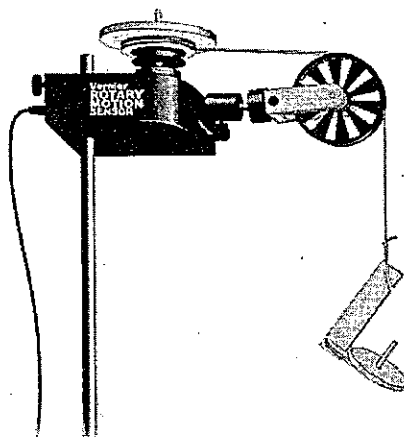

Figure 1
1. Connect the Ultra Pulley to the Swivel Mount and then to the Rotary Motion Sensor, as shown in Figure 1. Attach the sensor to a ring stand and position it so that a weight tied to the edge of the large pulley on the sensor and hanging over the Ultra Pulley can hang freely without touching the floor.